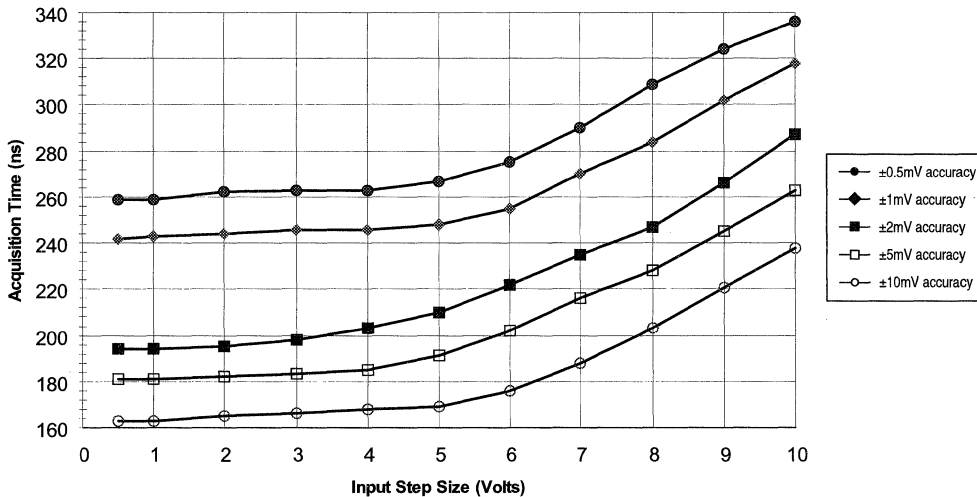

Figure 4. Acquisition Time versus Accuracy and Step Size
- See Figure 4 for acquisition time versus accuracy and input voltage step amplitude.
As shown in the plot (Figure 4) of acquisition times vs. input signal step size, the S/H's internal to the CDS-1401 acquire smaller-amplitude signals quicker than they acquire larger-amplitude signals. In "maximum-throughput" applications, assuming "asymmetric" timing can be accommodated, each S/H should only be given the time it requires, and no more, to acquire its input signal. Leaving a S/H amp in the sample mode for a longer period of time has little added benefit.